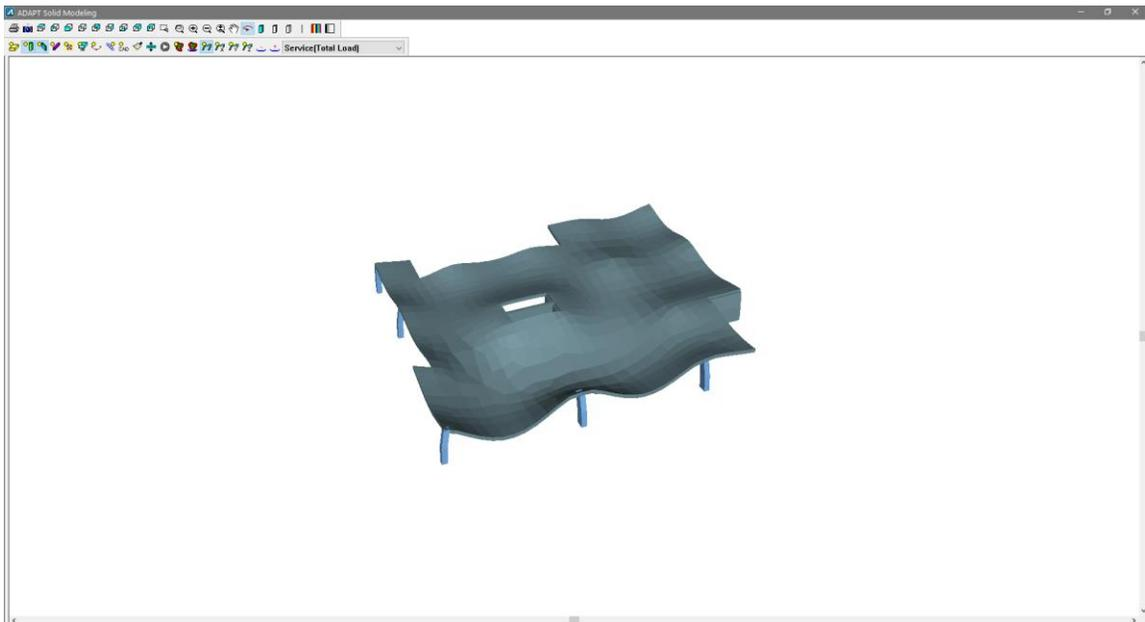

Figure 3-13
- If we now click on the *Solid Modeling Global Deflection Contour*  icon we can see the global deflection of the structure as shown in **FIGURE 3-13**. The global deflection shows the X, Y, and Z direction deflections all at once.